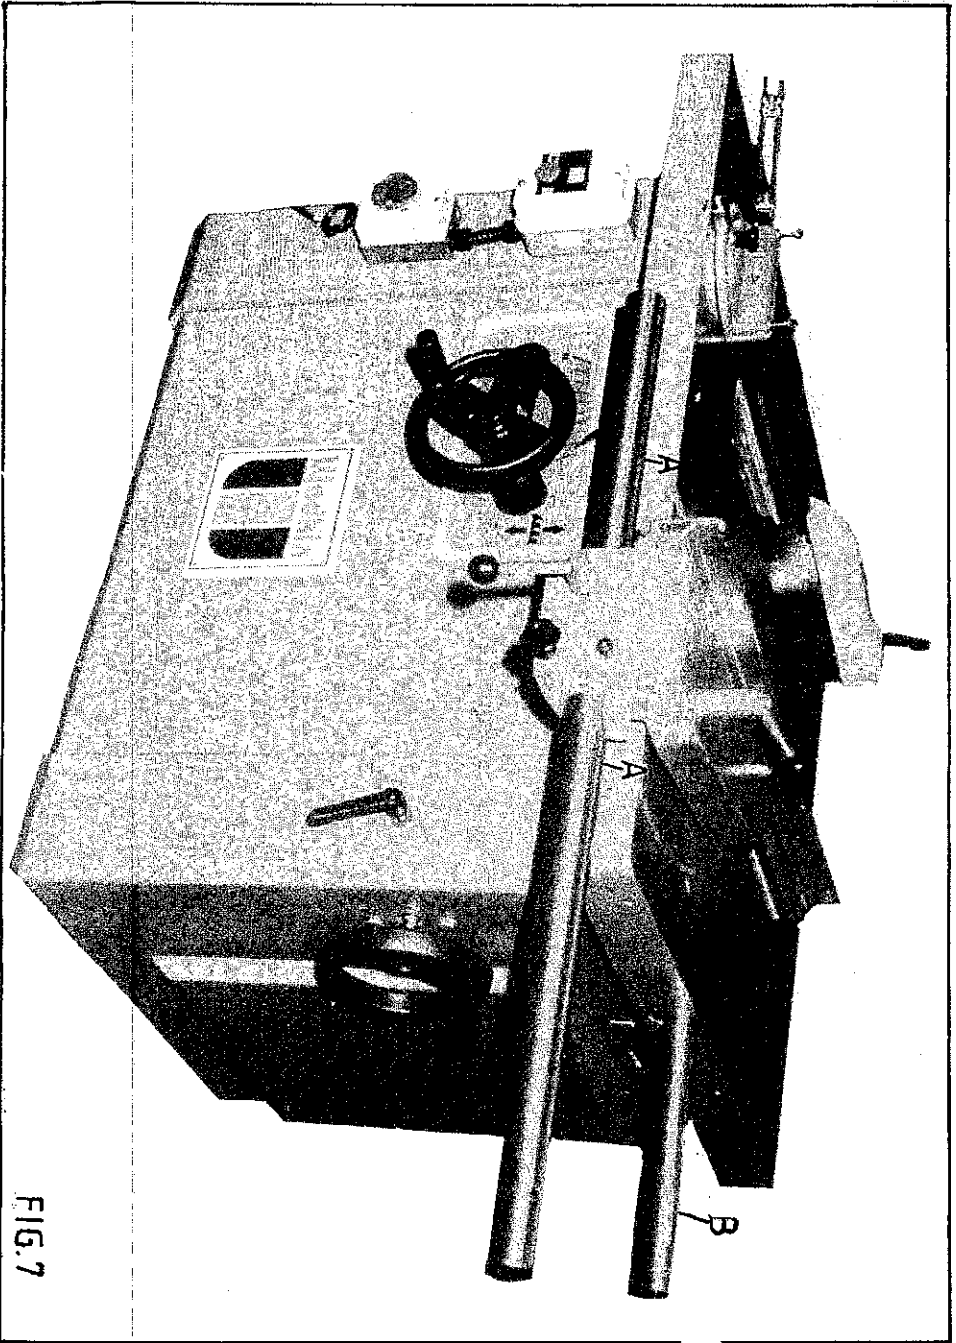

FIG. 7
a) Locate stud "A" FIG.7 into holes in front of main table. Set fence bar parallel to table top and lock in position with nuts provided.